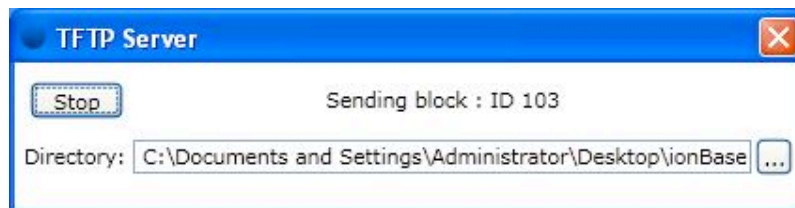

Figure 9-6: TFTP failure
- The TFTP utility will start to upload. If it stalls (see Figure 9-6 below), then stop and restart the utility. Sometimes it will take 2-3 attempts